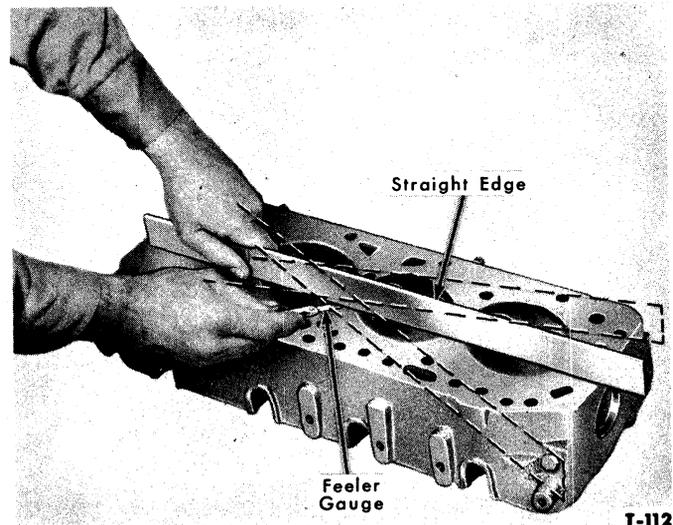

Figure 14—Checking Cylinder Head Flatness
1. Inspect the cylinder head for being cracked, nicked or burred on the gasket surfaces. Replace the head if it is cracked. Remove all burrs or nicks with an oil stone. With a straight edge and thickness gauge, check the flatness of the cylinder head as shown in Figure 14. Specifications for flatness are 0.005 inch maximum overall or 0.003 inch in any 5 inches. Check the exhaust